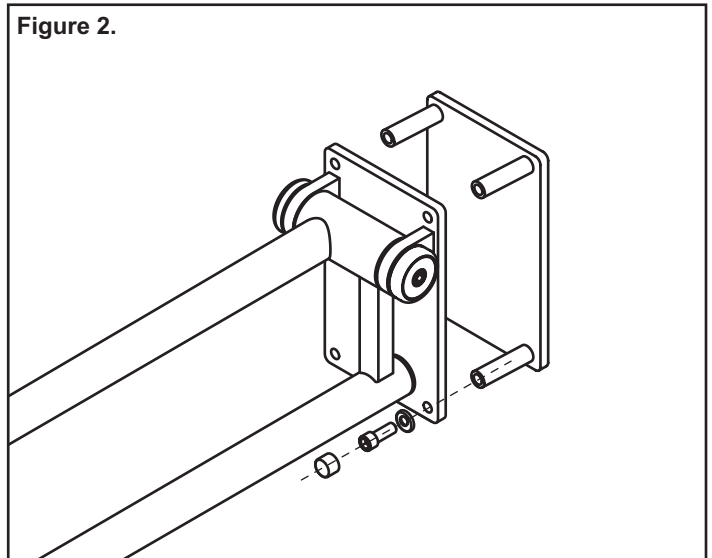

Figure 3.
5. Slide the P.T. Rail™ and floating clamp plate over the floor mast to the desired height, and tighten the bolts with the supplied hex key as shown in **Figure 3**. Tighten to approximately 17 ft-lbs torque. Cover bolt heads with supplied caps. Test the P.T. Rail™ for suitable rigidity.